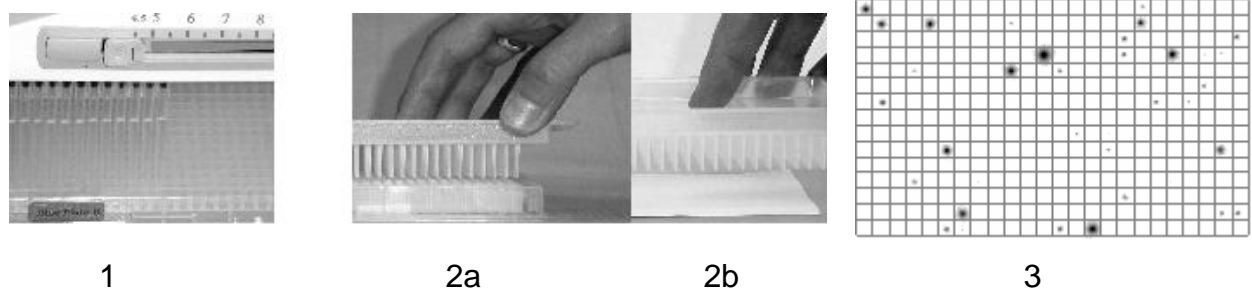

Figure 3
- Use the provided replicator to transfer a sample from each well to the streptavidin-coated flat surface (we recommend Sam²[®] Biotin Capture Membranes from Promega), please refer to Figure 3, 2a and 2b.
- Expose Sam²[®] Biotin Capture Membranes to a Phosphor-Imager Screen or X-Ray film. For easier handling we recommend to wrap the membranes still slightly wet in plastic foil (e.g. Saran Wrap[®]) before exposure (see Figure 3 ,3)